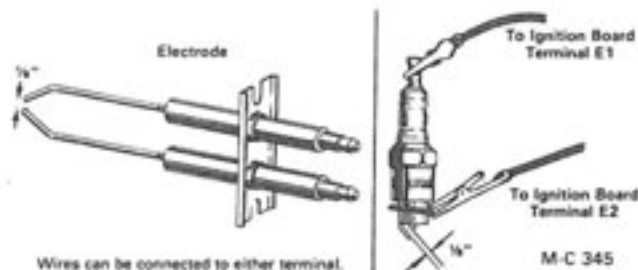

Figure 40
- B. Using a new properly gapped electrode ($\frac{1}{8}$ ") or an automotive spark plug gapped to $\frac{1}{8}$ " , connect terminals E-1 and E-2 on the ignition board to the test electrode or spark plug with jumper wires, see Figure 40.